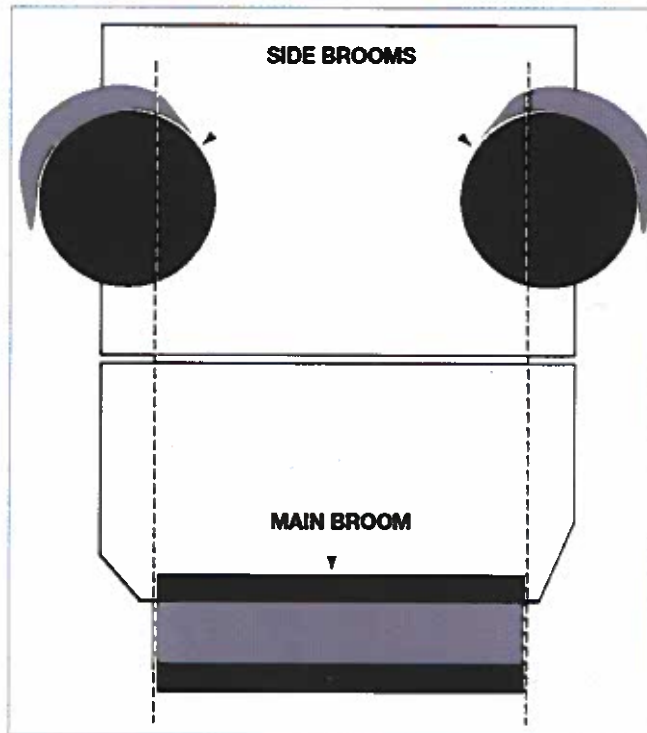

Figure O-2
8. Side broom patterns should be crescent-shaped and approximately 4 inches wide at the top and should overlap the main broom pattern (Figure O-2).
If the patterns do not conform to those in Figure O-2, adjust the brooms. See procedures in the Service Procedures Section.